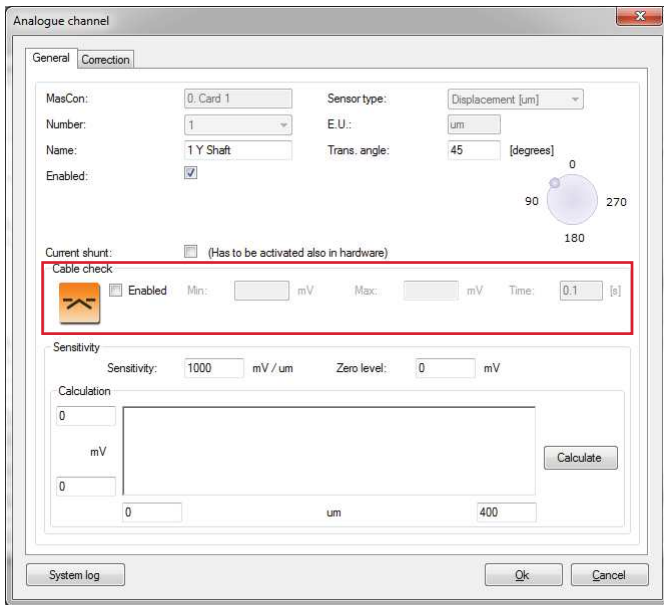

Fig. 1. Turning off "Check sensor OK status" in SKF Multilog IMx analogue channels – SKF @ptitude Observer.
- **Check sensor OK status** will increase the measurement/process time. Turn off **Check sensor OK status** when configuring transient groups (→ fig. 1).